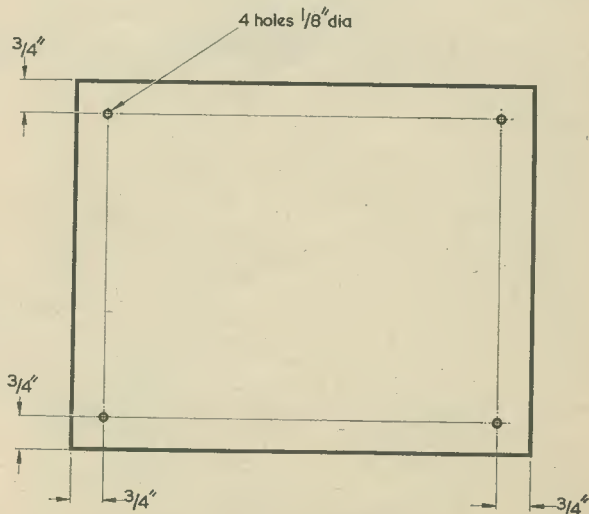

Fig. 8. Four holes are drilled in the base plate for the rubber feet
33. Drill a $\frac{1}{8}$ in. hole in each corner of the base plate, as in Fig. 8. Mount four rubber feet with self-tapping screws to these holes.